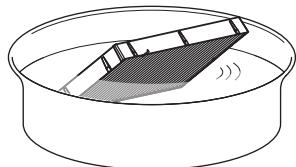

Fig. 1
1) Wash the air filter unit. (**Fig. 1**)